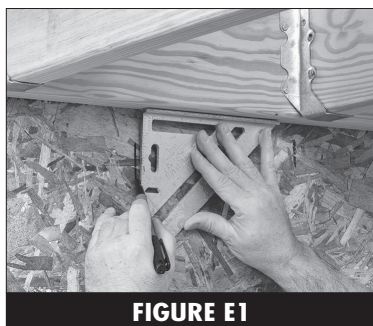

FIGURE E1
2. Draw a vertical line onto the face of the sheathing or siding that represents the center line of the stud behind. **(Figure E1)**